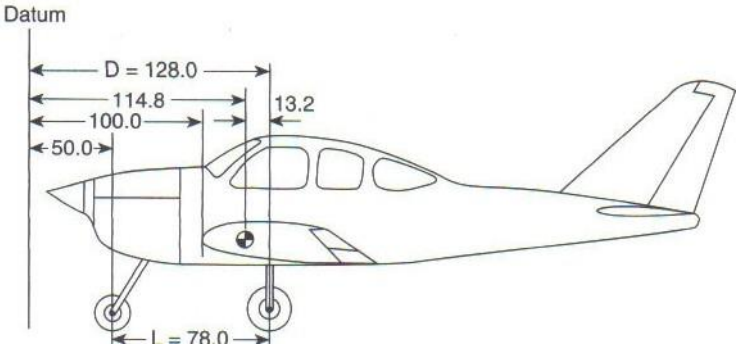

Figure 16.2. The datum is ahead of the airplane.
In Figure 16.2, the datum is considered to be 100 inches ahead of the leading edge of the wing. The distance (D) between the main-wheel weighing points and the datum is +128 inches. The weight of the nose wheel (F) is 340 pounds, the distance (L) between the main wheel and the nose-wheel weighing points is 78.0 inches, and the total weight (W) is 2,006 pounds.